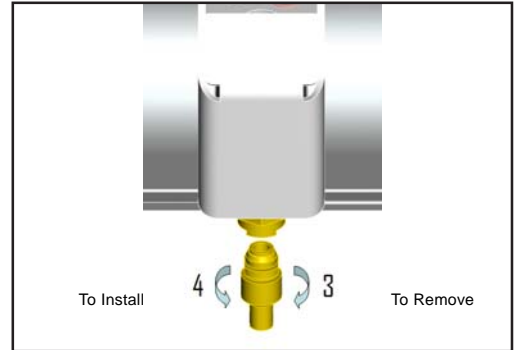

Figure 3
3. Remove spray tip by hand by pushing the tip up into the nozzle body and rotate 1/4 turn clockwise (Figure 3).
4. Reinstall by pushing spray tip up into the nozzle body and rotate 1/4 turn counterclockwise until tip will not turn (Figure 3).